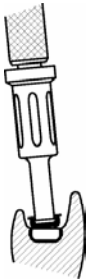

Fig. 8
8. Use the Locator Male Removal Tool (attached to the Locator Core Tool, Zest order #8393) to remove the Black Processing Male from the metal denture cap. The sharp circular edge on the end of the removal tool should be wedged tightly down into the very bottom of the plastic male so that it will catch the inside of the black plastic insert and pull it at an angle out of the metal housing. (Fig. 8) To discard the nylon male from the tip on the Core Tool, point the tool down and away from you and tighten the Male Removal Tool clockwise back onto the Core Tool. This will activate the removal pin and dislodge the nylon male from the tip end of the Male Removal Tool.